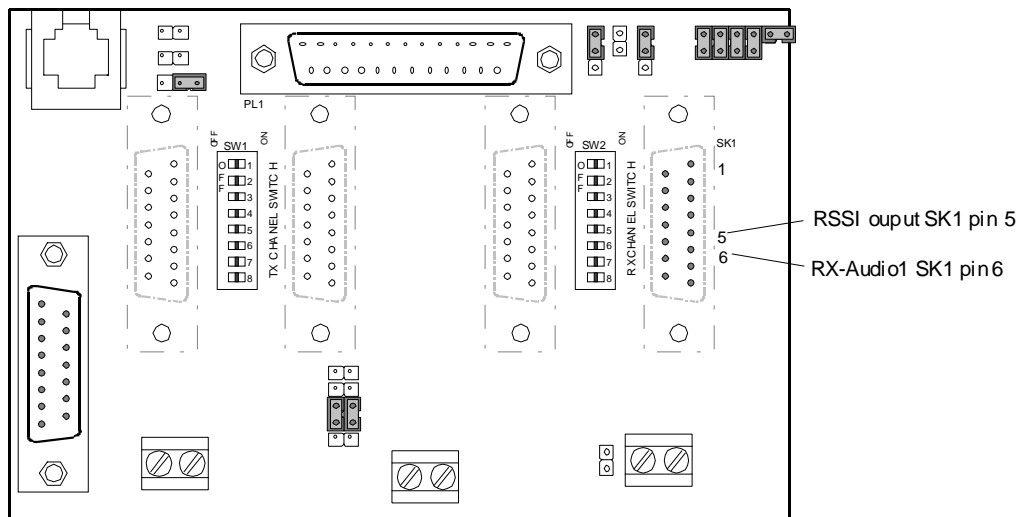

Figure 30 – T800-50-0001 Backplane and test pins location
- Adjust RV320 (RSSI level) to give 2.0V RSSI output at SK330 pin 2 or on backplane SK1 pin 5 when measured with a voltmeter (See Figure 30 for test point location).